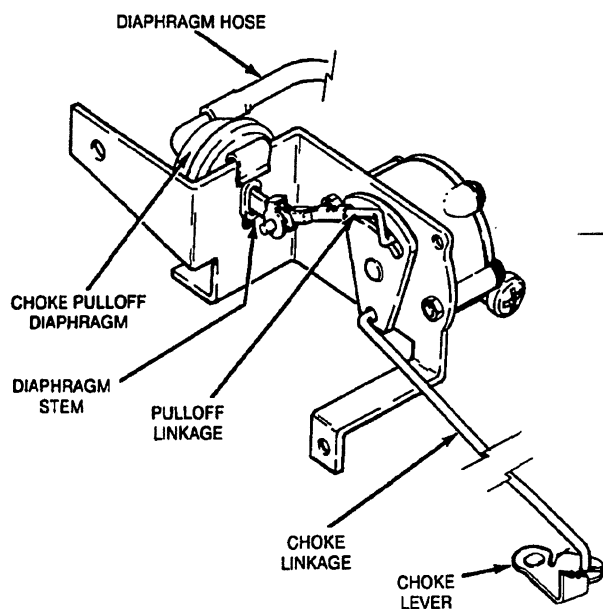

FIGURE 6-16. CHOKE PULLOFF DIAPHRAGM
2. Apply finger pressure lightly against the choke lever to take up the free play in the pulloff linkage (see Figure 6-16).